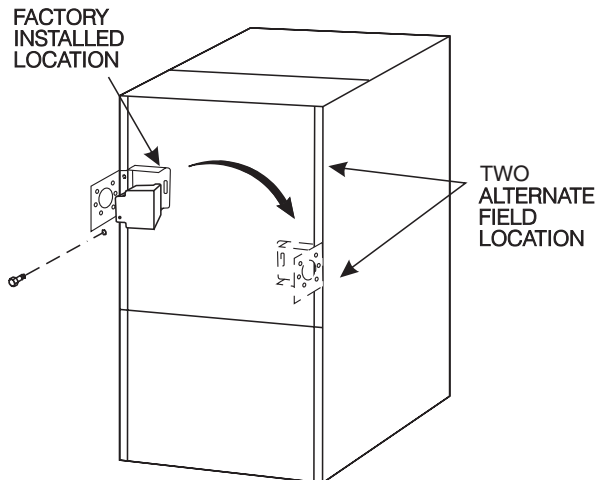

Fig. 23—Relocating J-Box
1. Remove and save two screws holding J-Box. (See Fig. 23.)
4. Remove and save two screws holding J-Box. (See Fig. 23.)